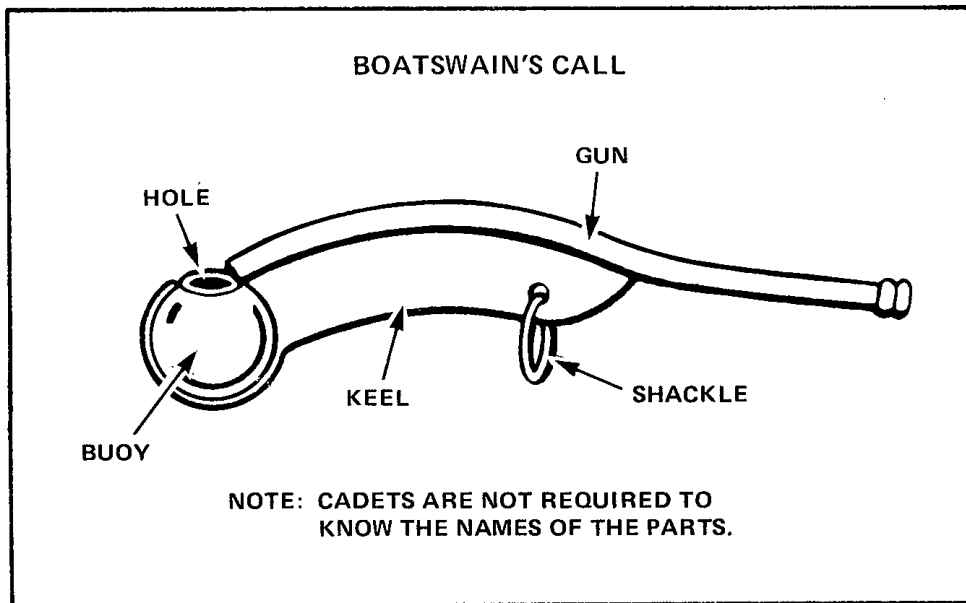

Figure 9-2 The Boatswain's Call
5. **Use of the Boatswain's Call** — To sound the call, hold it between your thumb and index finger so that your thumb is on or near the shackle. The buoy will then rest comfortably in the hollow of your hand. By blowing into the gun and closing and opening with your last three fingers, you will be able to vary the note by throttling the air as it comes out of the hole. Don't let your fingers touch the ends of the hole or the end of the gun; that would stop the sound completely. See Figure 9-2.